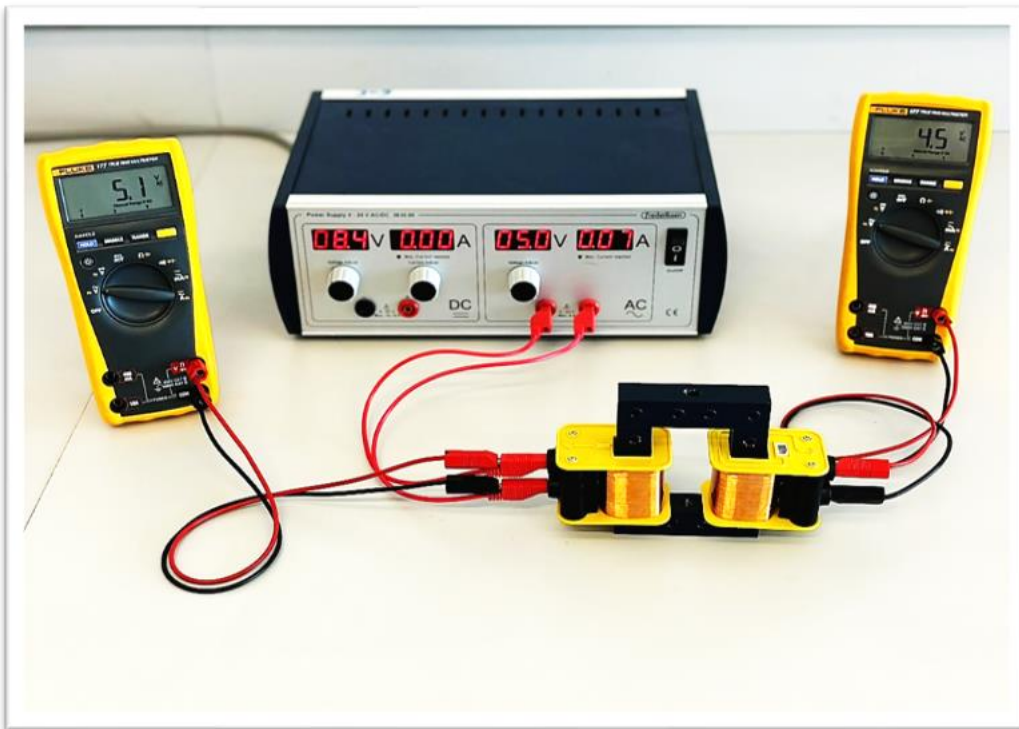

Fig. 4: Setup to examine step-up & step-down transformers
- 1- Use the core configuration that gave the maximum voltage gain in **part 1**, set up the coils as shown in **Fig.4**. Set the power supply voltage of to **5.0 V**.